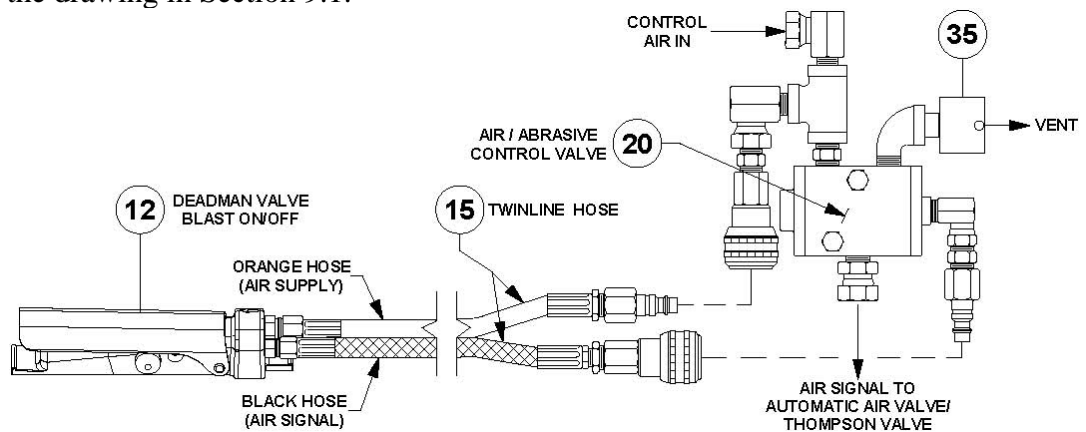

Figure 5.4 – Thompson Valve Pneumatic Blast Control System
5.9.1. Pneumatic Deadman System: When the pneumatic deadman lever is pressed down, air supply from the orange hose of the twinline hose (#15) flows into the black hose. Air flows through the black hose to the signal port of the control valve (#20) causing it to open and send air signals to the auto air valve (#9) and the Thompson Valve (#14). When the deadman lever is released the air signal is cut off and the remaining air vents from the breather (#35). See Figure 5.4 and the drawing in Section 9.1.